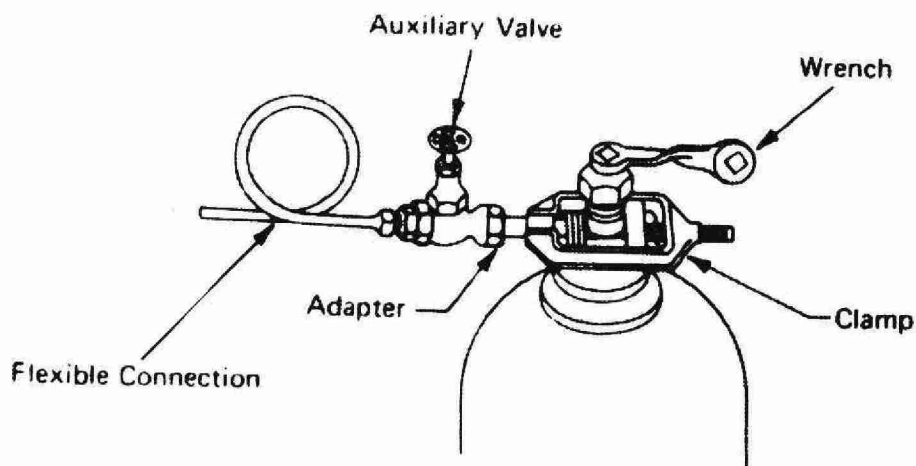

Figure 3-4 CYLINDER CONNECTION
6. Place the clamp over the valve. Insert the adapter in the outlet recess and then, fitting the adapter in the clamp slot, tighten the clamp screw. Make sure the end of the adapter seats firmly against the lead washer. Figure 3-4 shows a cylinder connected to the coil.